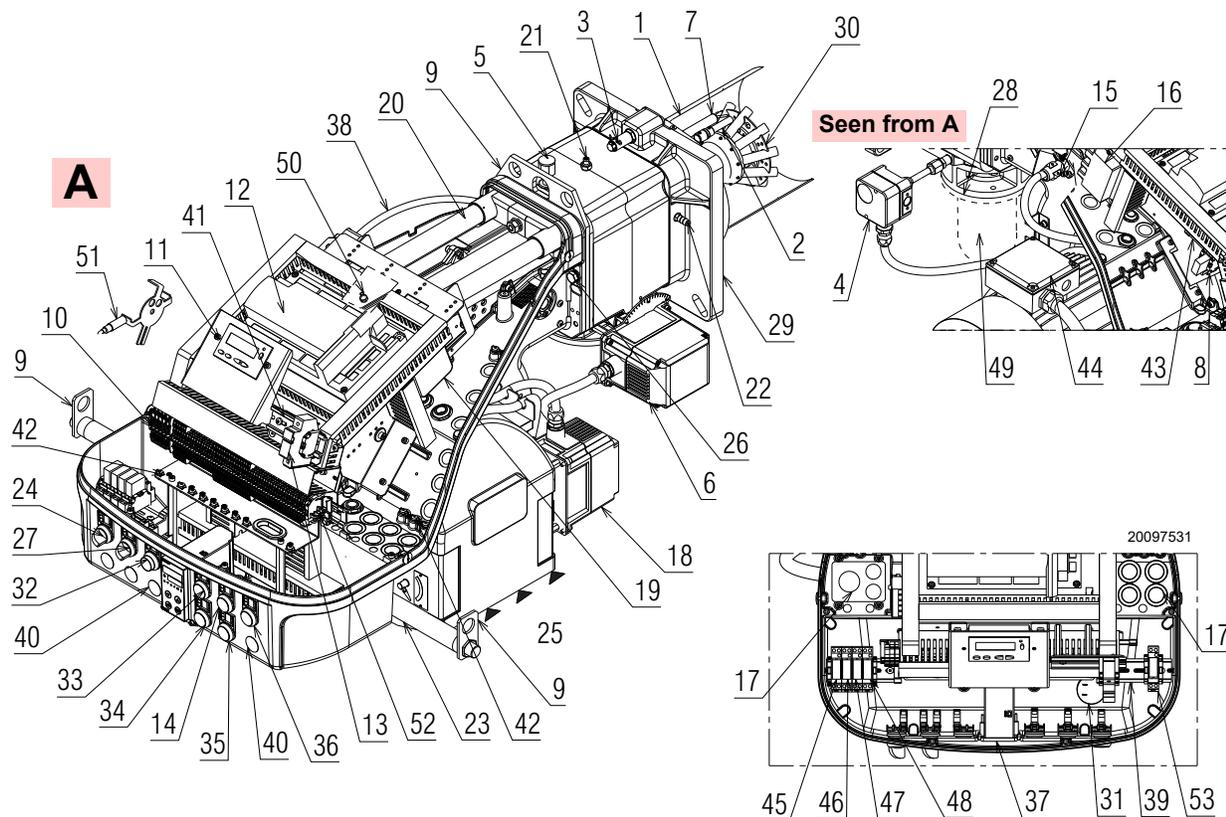

Fig. 1
(1) Reference conditions: Ambient temperature 68 °F (20 °C) - Barometric pressure 394" WC - Altitude 329 ft.
(2) Pressure at test point 21) (Fig. 1), with zero pressure in the combustion chamber, with open gas ring 2) (Fig. 21) at maximum burner output
(3) Sound pressure measured in manufacturer's combustion laboratory, with burner operating on test boiler and at maximum rated output.
If the flame safeguard alarm 36)(Fig. 1) lights up, it indicates that the burner is in lock-out. To reset, press the reset pushbutton.